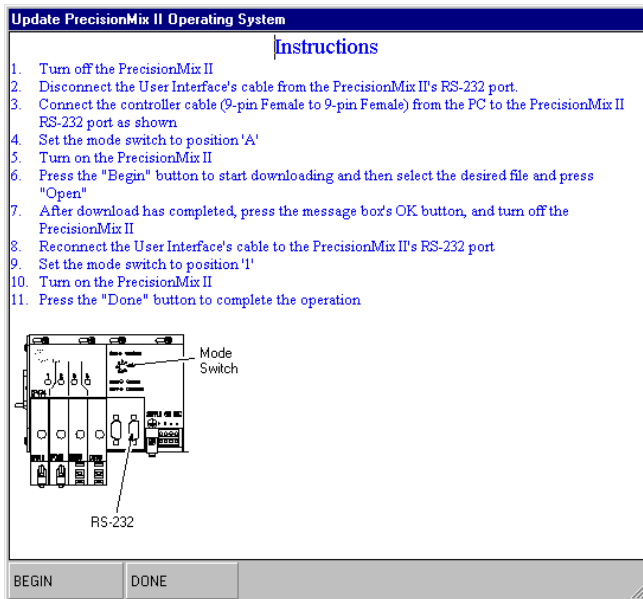

Fig. 13.20
2. An Instructions window to Update PrecisionMix II Operating System will appear. See Fig. 13.20.
6. Press the BEGIN button on the Instructions window to begin the update. See Fig. 13.20.